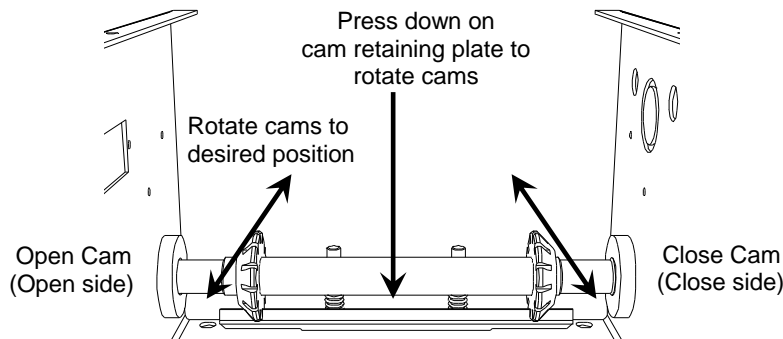

Figure 16 Adjusting the limit cams
3. Depress the cams-retaining bracket from the Open side and rotate manually the Open cam (*Figure 16*) until the cam activates the limit switches sufficiently so as to hear the switches click (2 clicks for hardwired circuit. Only one click with ECB and check if the OPEN limit light is ON).
6. Depress the cams-retaining bracket from the Close side and rotate manually the Close cam (*Figure 16*) until the cam activates the Close limit switch sufficiently so as to hear the switch click (2 clicks for hardwired circuit. Only one click with ECB and check if the CLOSE limit light is ON).